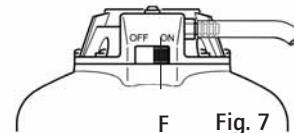

Fig. 7
- Place the by-pass lever in the **ON** position (Fig.7-L).